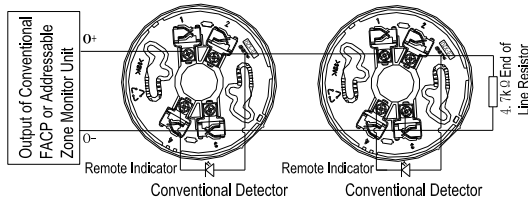

Fig. 6
- When the detector is connected with conventional FACP or addressable zone monitor unit, if a 4.7kΩ end of line resistor is connected to the end of output loop, DB-01 base is used. The system composition is shown in Fig. 6.